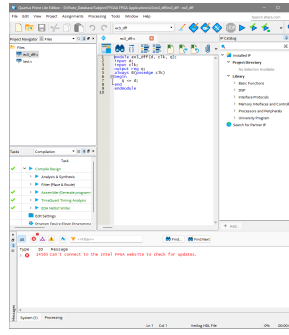

Figure 36: D flip-flop code
2. Create a Verilog file named "ex3\_dff.v". (Figure 36)